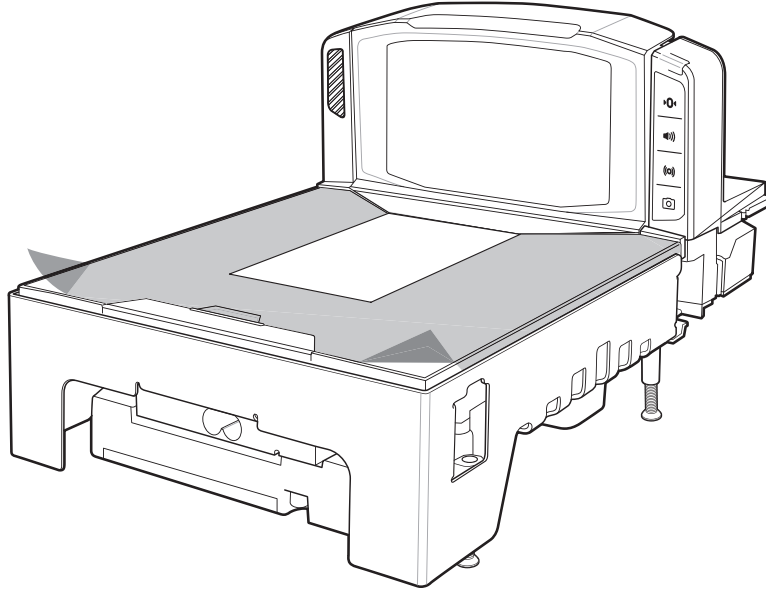

Figure 3-4 *Platter Protector*
- For added protection during shipment, the MP70XX platter is covered with a tight fitting layer of plastic as shown in *Figure 3-4*. This plastic layer must be removed before placing the unit into service. (In the case of a scale model, just before scale calibration; and, in case of a non-scale model, as the final step of installation)